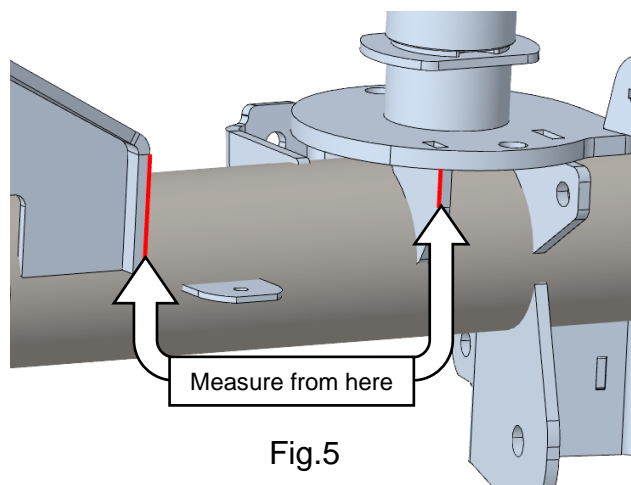

Fig.5
31. Position right coil bucket, set at 0 degrees rotation and tack weld in place (Figure 5).